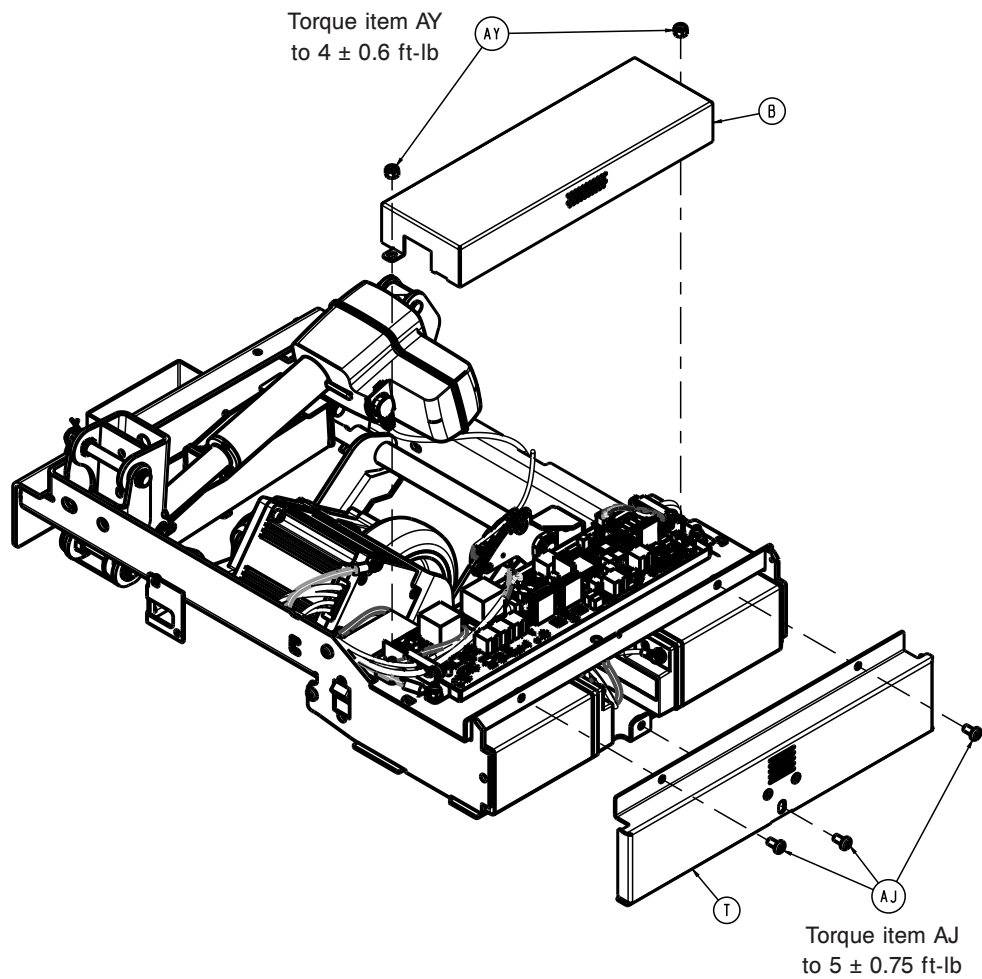

Figure 64 – Removing the battery cover
9. Using a T27 Torx driver, remove the three screws (AJ) that secure the battery box cover (T) to the base weldment (Figure 64). Save the screws and battery box cover.
- 15. Using a ratchet and 7/16” socket, remove the two nuts (AY) that secure the board cover (B) to the frame weldment (Figure 64). Save the nuts and board cover.
9. Using a ratchet and 7/16" socket, remove the two nuts (AY) that secure the board cover (B) to the frame weldment (Figure 64). Save the nuts and board cover.